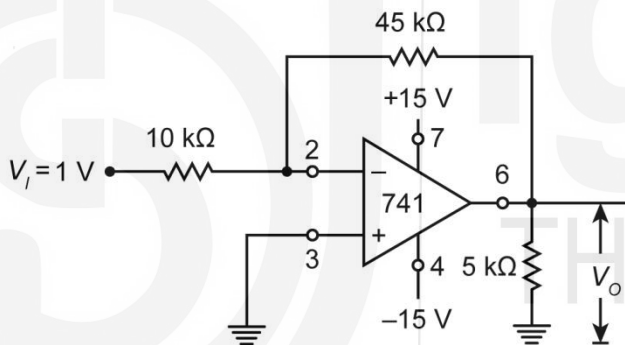

Fig. 14.22: Op amp amplifier.
- Identify the circuit given in Fig. 14.22 and determine the value of output current. What changes should be made in the circuit so that output current is doubled without changing the gain of the amplifier?